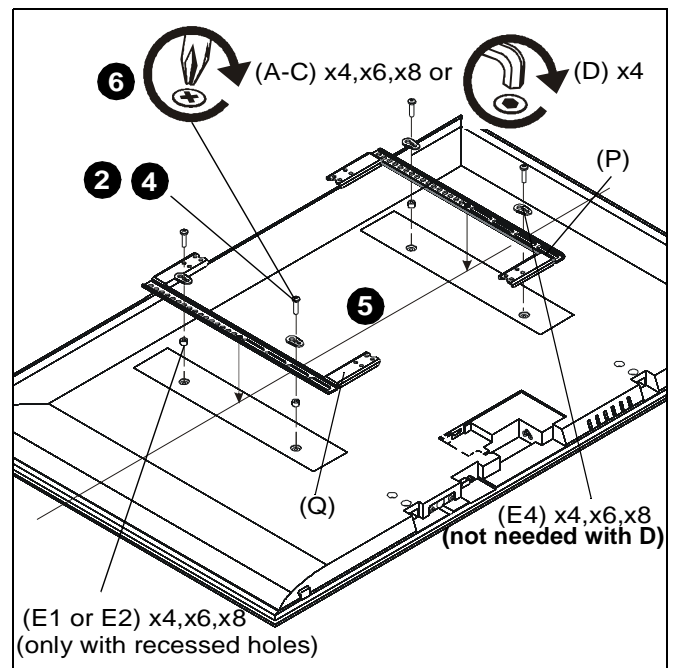

Figure 15
2. Select screw *diameter* by examining hardware (A-D) (4mm, 5mm, 6mm or 8mm) and comparing with mounting holes on display. (See Figure 15)
3. Select spacers: (See Figure 15)
4. Select screw *length*: (See Figure 15)
- Using your hand, insert **SHORTEST** length screw of selected diameter (A1, B1,C1 or D1) through bracket (B), universal washer (E4), selected spacer (E1 or E2, if required), into display mounting hole. Do NOT thread screw into hole at this time.
6. Using Phillips screwdriver, carefully install selected screws through universal washers (E4, if required), uprights (P and Q), and spacers (E1 or E2, if required), into display. (See Figure 15)